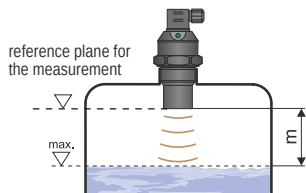

Fig. 2: Dead zone of the device
- The reference plane for the measurement is the lower edge of the transducer (Fig.2). In compliance with the measuring principle, no signals **reflected in the area directly below the device** (dead zone) can be evaluated. The dead zone (Fig.2) determines the minimum distance possible between the device and the highest level. The minimum distances to the medium are listed in the chapter "Technical specifications".